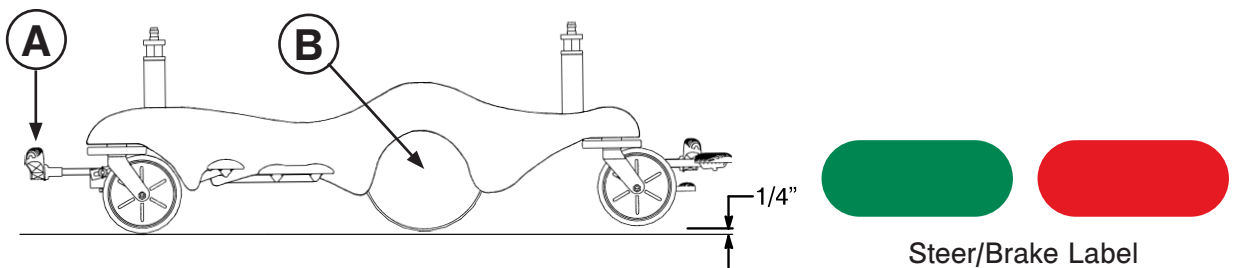

Figure 4.2: Steer Position
When the brake/steer pedal (A) is in the steer position, the foot end casters are elevated approximately 1/4" and the stretcher rests on the two head end casters and the two Big Wheels (B) as shown in Figure 4.2. This provides increased mobility and ease of steering the stretcher. See page 16 for pedal operations.